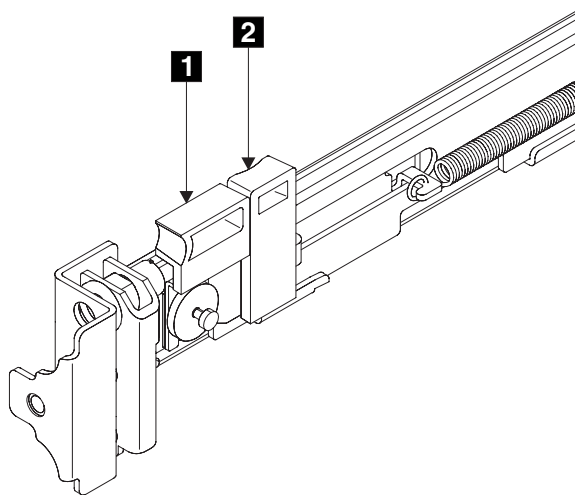

Figure 91. Retracting the latch lock carrier
2. Put your index finger against the side of the latch-lever, **1** in Figure 91, and put your thumb against the front of the latch-lock **2**.